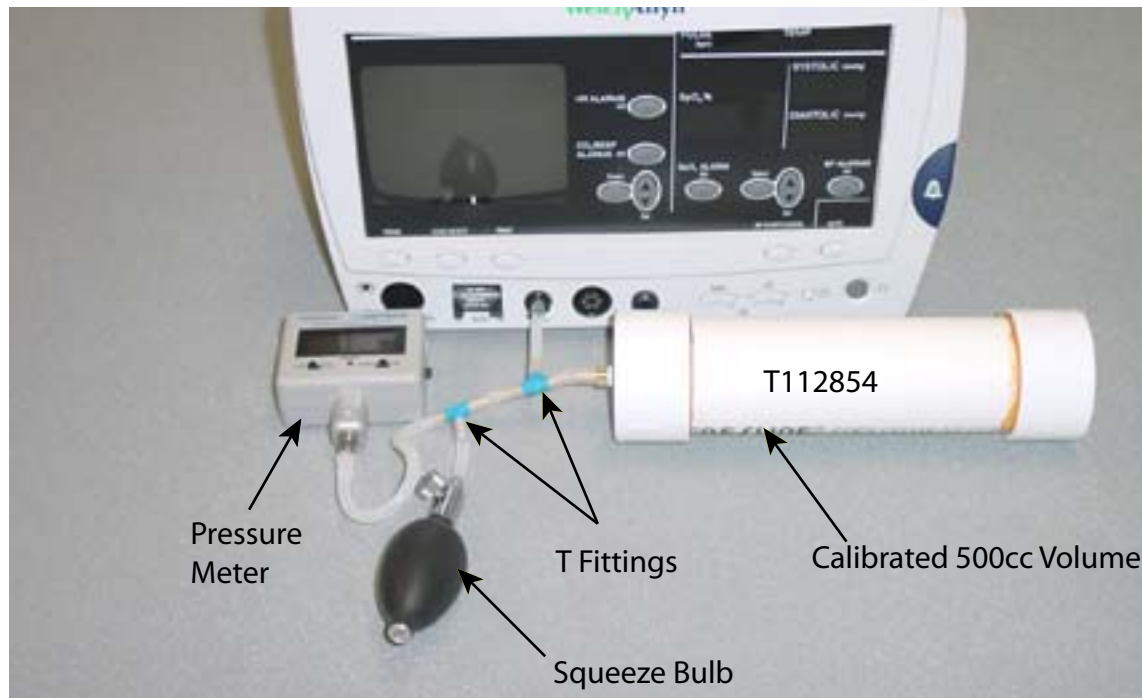

Figure 2-4. Photo of Atlas BP calibration setup.
6. Connect the pressure meter, bulb, and 500cc vessel to BP port with “T” connectors as shown in photograph Figure 2-4.